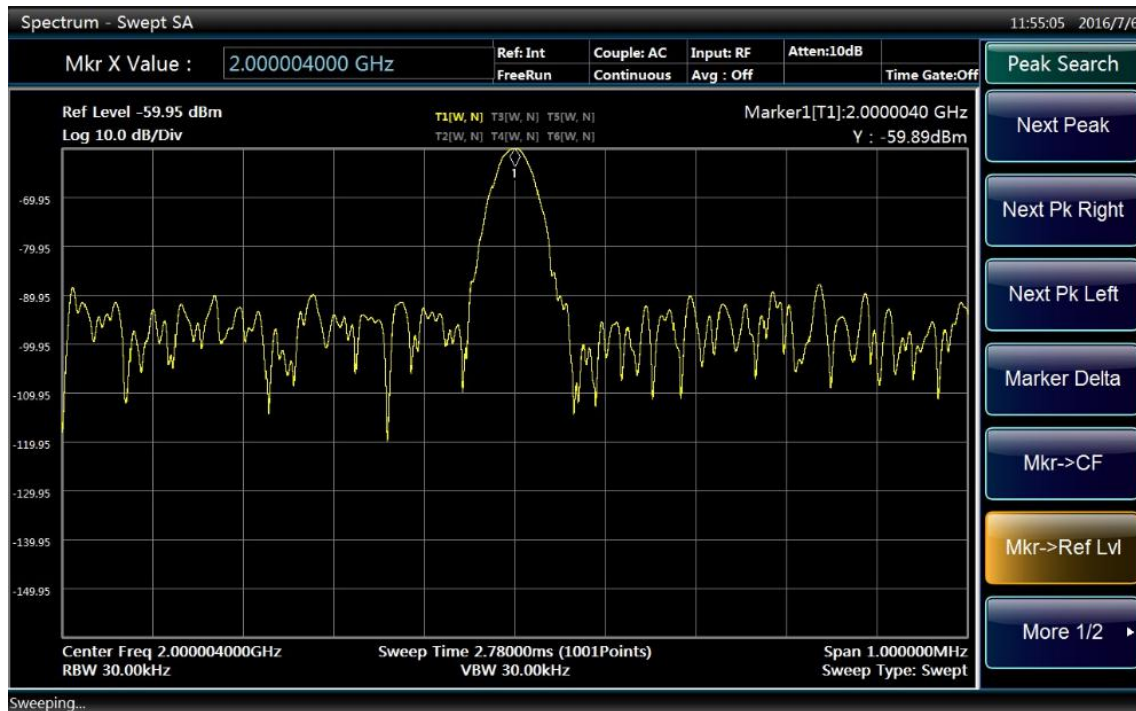

Fig. 4.22 Display interface of second harmonic amplitude
- Press [Marker →Reference Level] to adjust harmonic peak to the reference level with second harmonic amplitude as shown in Fig. 4.22.